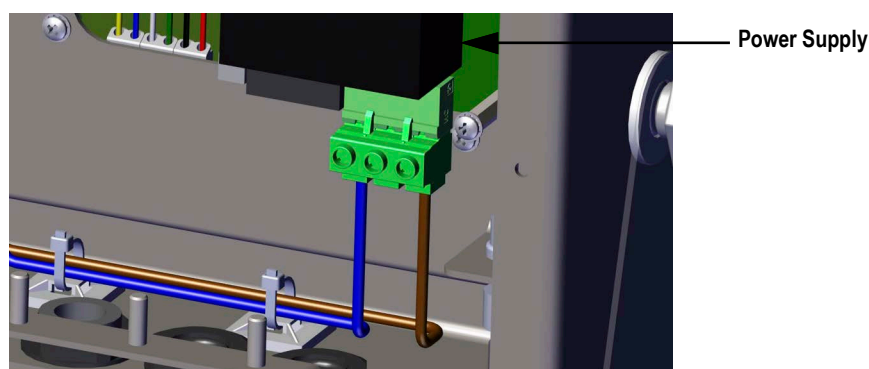

Figure 2-20. Connect AC Wiring
1. Run the cable up through the cord grip (not included), see Figure 2-20.
3. Run the other two wires down the back of the indicator and connect them to the three pin plug (PN 152334) that connects to the power supply board, see Figure 2-20 and Table 2-4 on page 30.